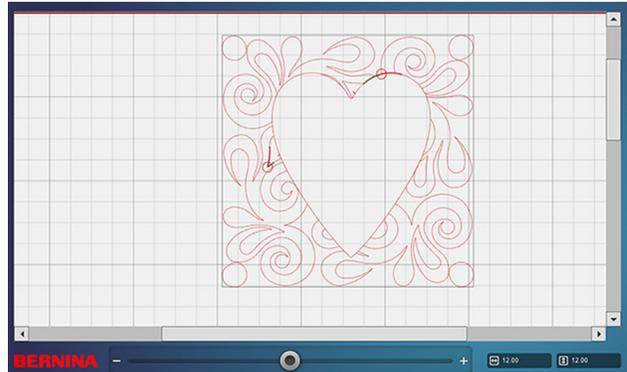

Fig. 19
7. Select Preview to view the mask (Fig. 19). Confirm with the green checkmark or select Preview again if you want to reposition the Heart.